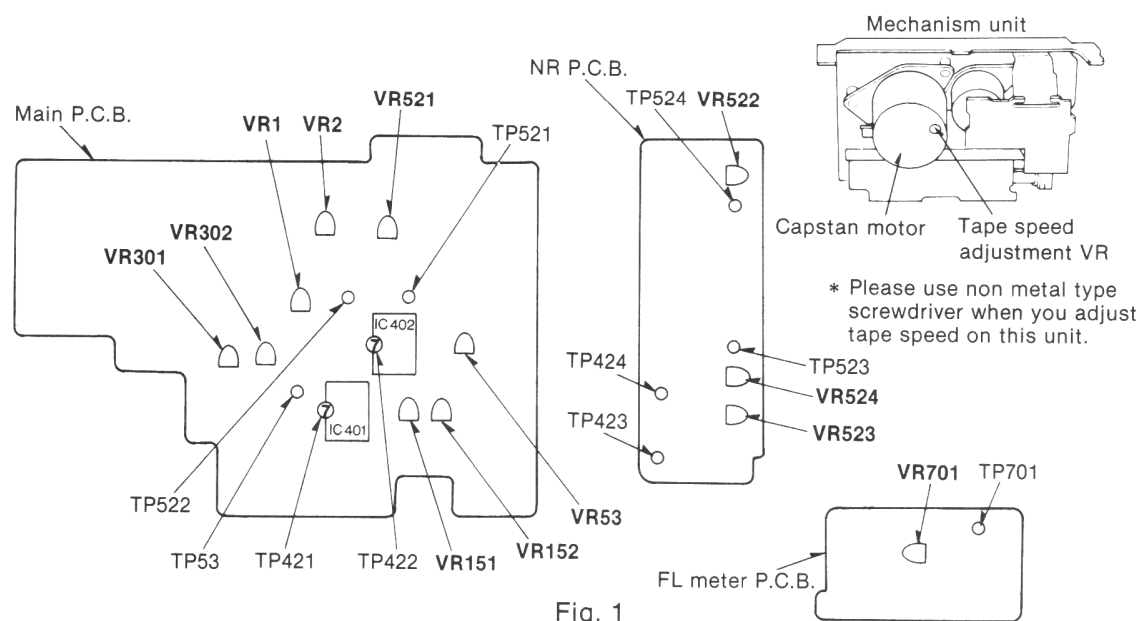

Fig. 1
- If measured value is not within the standard value, adjust it by using the tape speed adjustment VR shown in Fig. 1. **Note:** Please use non metal type screwdriver when you adjust tape speed accuracy on this unit.